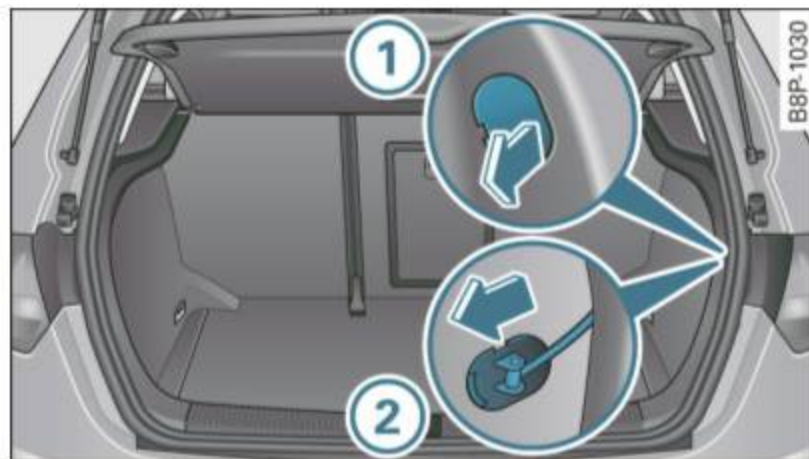

Fig. 181 Inside the luggage compartment: Opening the fuel filler flap by hand
- Use the screwdriver (vehicle tool kit) to pry the cover off at the recess ⇒ fig. 181 ①.
- Pull the actuator in the direction of arrow ② to release the fuel filler flap ⇒ fig. 181.